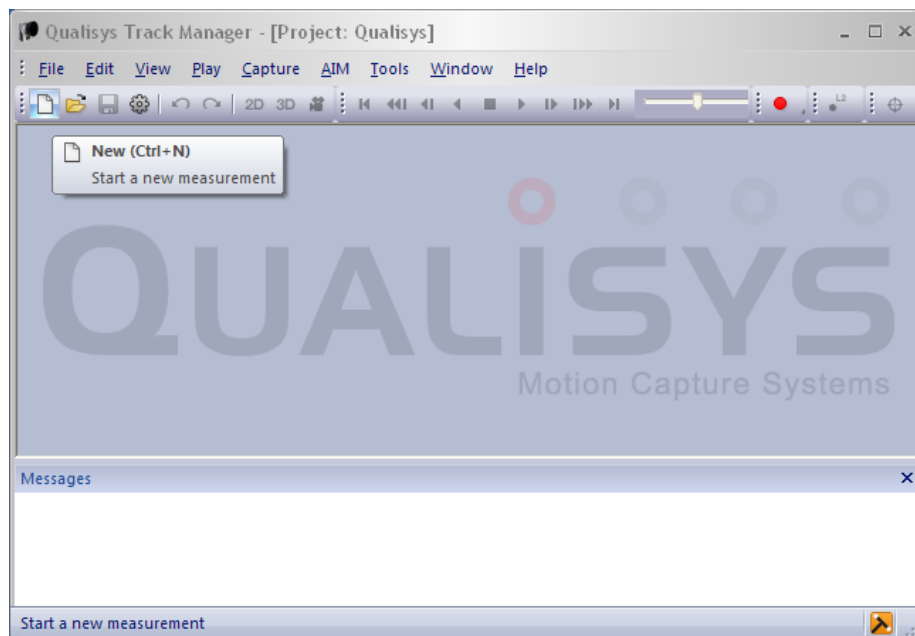

Figure 1.2: Qualisys Track Manager start window
1. Execute the program. The first displayed window is as in Figure 1.2.